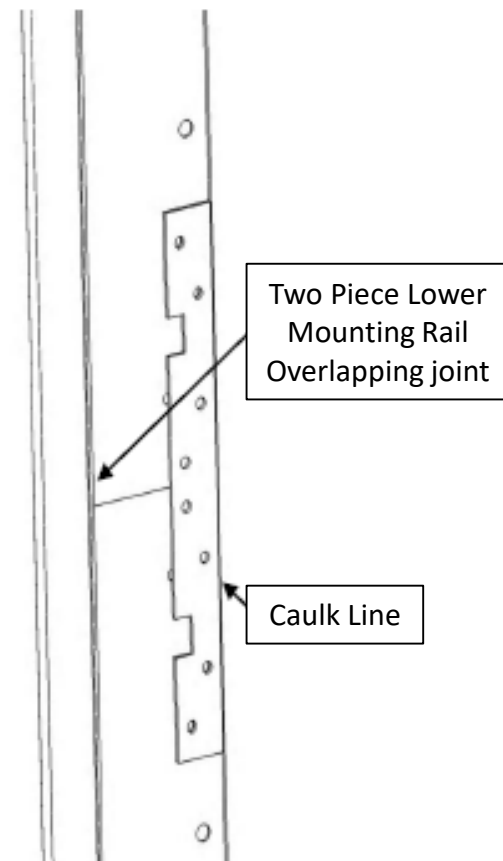

Figure 8. Attaching 2 pcs mounting rail and track.
7. The mounting rails below the door header need to be caulked to seal air and light leaks. Run a $\frac{3}{8}$ " bead or larger of caulk along the lower mounting rails and the wall. If mounting to lumber it will also have to be caulked **(SEE FIGURE 8)**.